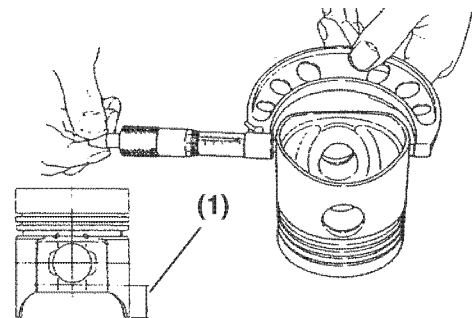

Figure 6-50
4. Measure the diameter of the piston skirt at 90° to the wrist pin bore as shown (Figure 6-50). Measurements must be taken at a specified distance (Figure 6-50, (1)) from the bottom of the piston, based on engine model. Record the measurements. See *Piston on page 6-10* for specifications.